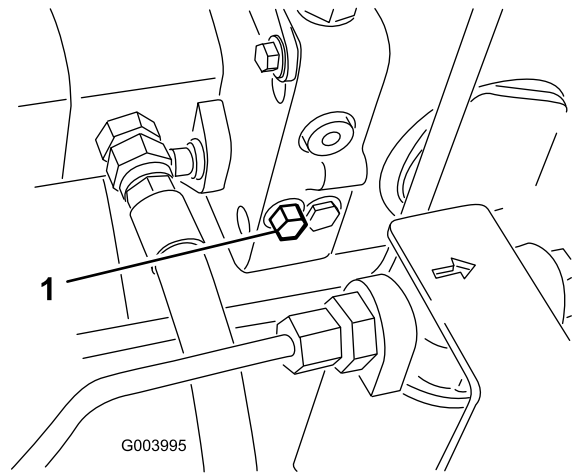

Figure 42
1. The bypass valve is located on the left side of the hydrostat (Figure 42). Rotate the bolt 1-1/2 turns to open and allow oil to bypass internally. Because fluid is bypassed, the machine can be moved slowly without damaging the transmission.